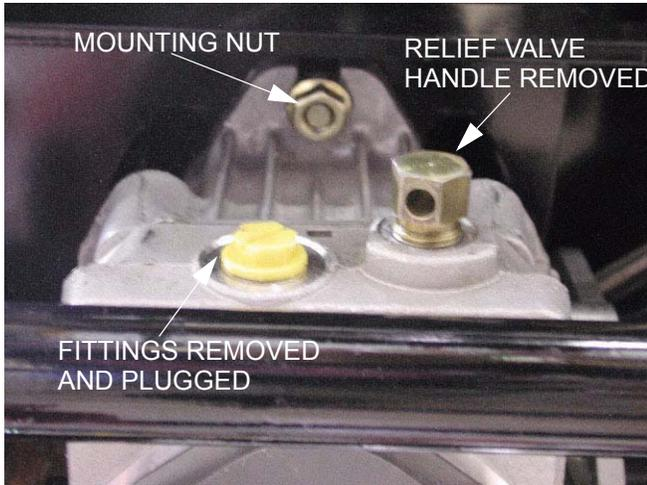

Figure 5.25
- 5.25. Remove the nuts from the carriage bolts that hold the hydro pump to the hydro pump mounting plate. See Figure 5.25.